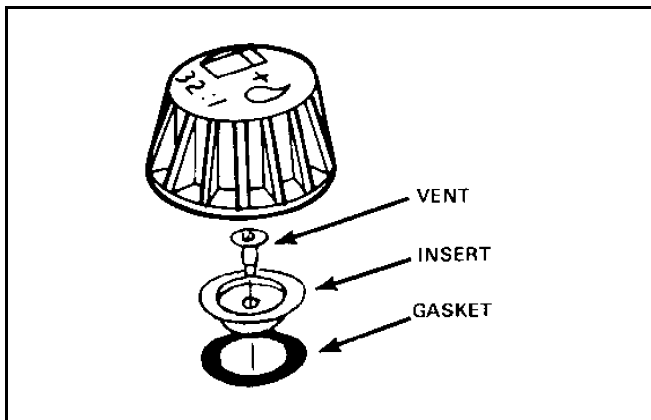

Figure 216
1. Remove the fuel tank cap and inspect the vent. If the cap is contaminated with dirt particles, the vent may need to be replaced (Figure 216).